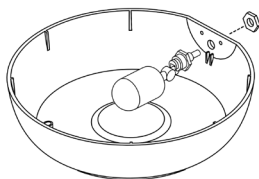

Figure 4
1. Remove the black nut from the float valve and insert the valve from the inside into the designated hole in the reservoir of the Boum Pot. Make sure that the float valve is aligned such that it can move vertically and closes properly when the water level rises (see Fig. 4 for the Boum Pot 13 L Pro example). The rib along the wall of the saucer under the hole helps keep the float valve in the correct position. Fix the float valve by hand from the outside of the reservoir with the black plastic hex nut provided.